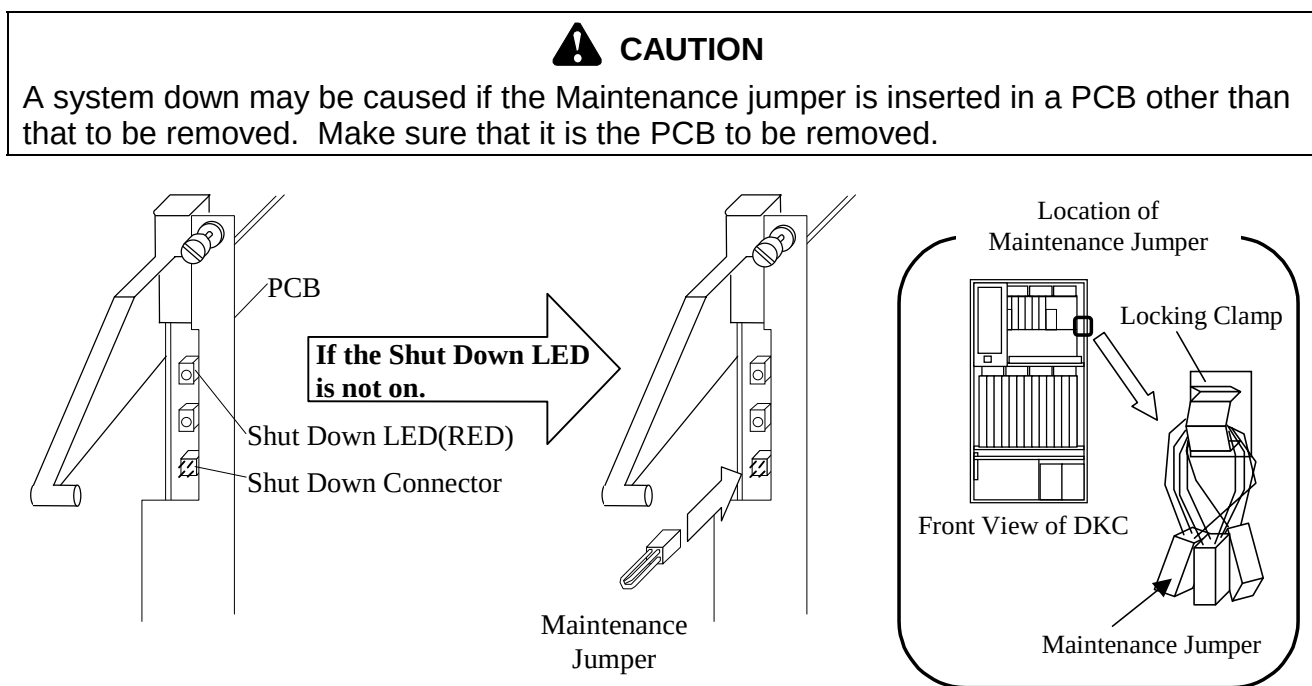

Fig. 4.3.2-5 Location of the Shut Down LED
- a. While referring to Fig. 4.3.2-5, Table 4.3.2-6 and Table 4.3.2-7, check the Shut Down LED on the Cache Memory PCB. Connect the Maintenance Jumper to the Shut Down Connector if the Shut Down LED is not on.